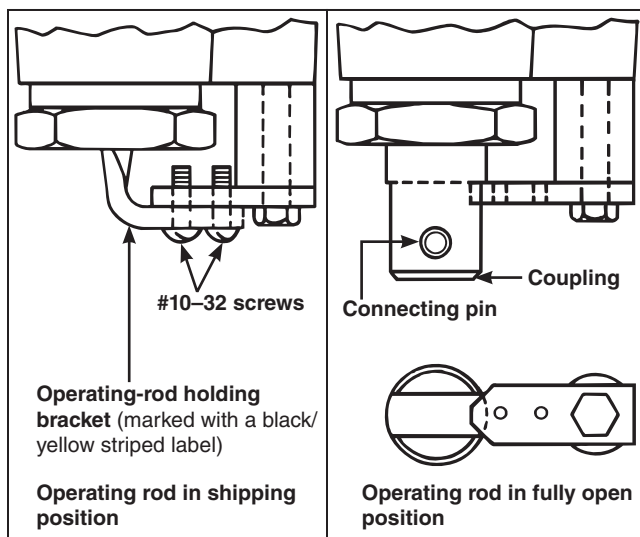

Figure 13. Prepare the interrupter for attachment to the insulating support column.
- (a) Remove and discard the two #10-32 screws that connect the operating-rod holding bracket (marked with a black/yellow striped label) for shipment. See Figure 13.
- (b) Pull the holding bracket to move the operating rod to its fully **Open** position. See Figure 13.
- (c) Remove the connecting pin used to attach the holding bracket to the coupling. Retain the connecting pin for re-use in Step 11(f). See Figure 13. Discard the holding brackets.